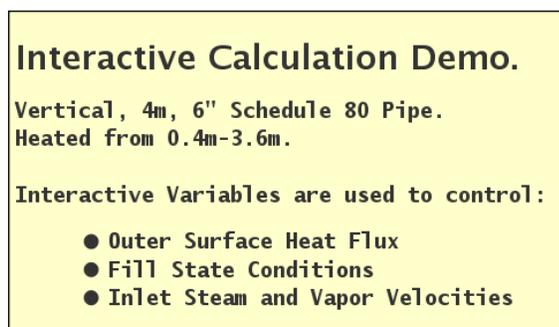

Figure 2.35. Text Annotation Example
- **Text** - The text displayed in the text annotation. Figure 2.35, "Text Annotation Example" is an example of a text annotation using the optional HTML tag support.